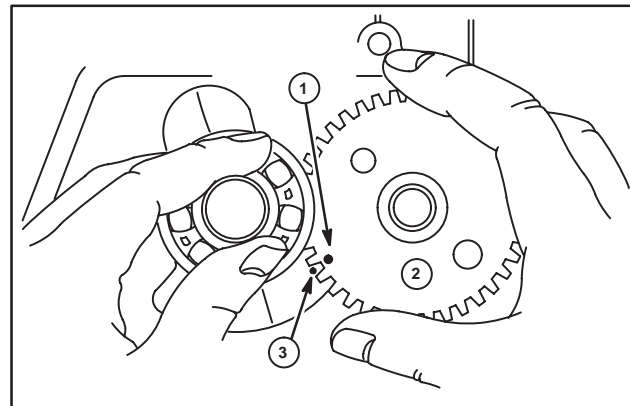

Fig. 14
- Install both crankshaft and cam gear (2) together, with timing marks (1, 3) aligned, Fig. 14.